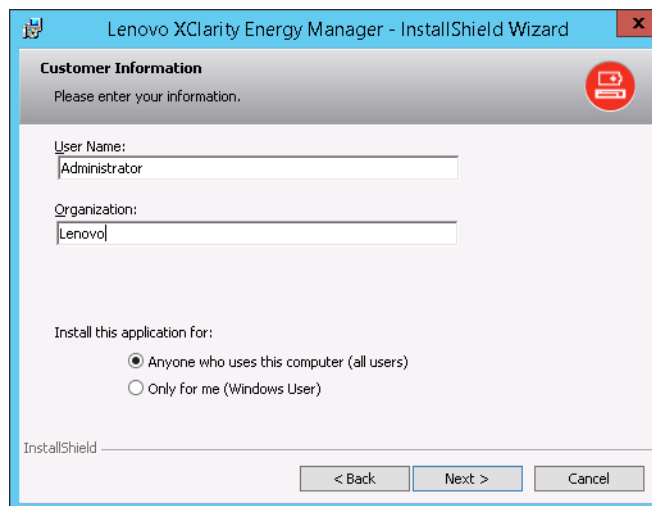

Figure 7-27 Customer information
4. Enter a User Name and Organization for where the software is being installed, as shown in Figure 7-27. Click **Next**.